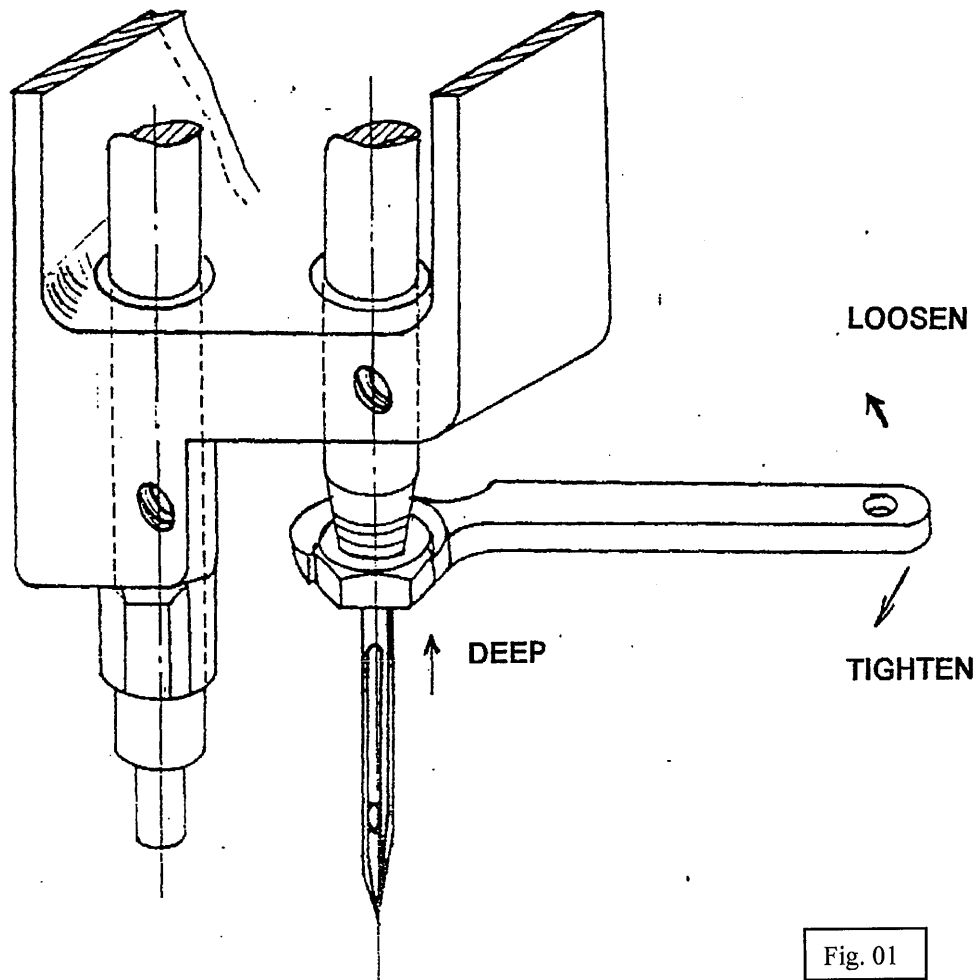

Fig. 01
- A. Needle Assembly / Disassembly : (See also Fig.01)